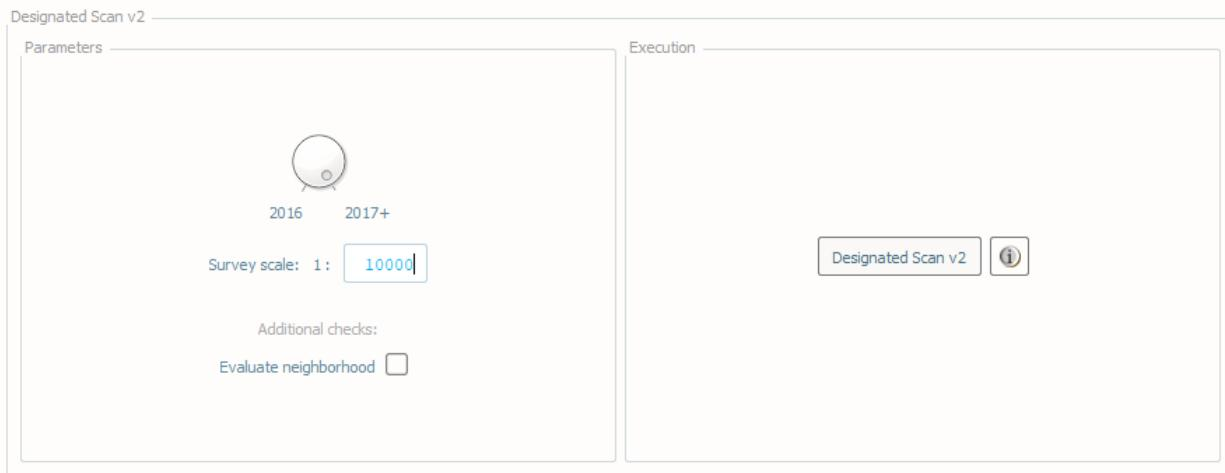

Fig. 2.40: The **Scan Designated** tab.
- Select the **Scan Designated** tab (Fig. 2.40) on the bottom of the QC Tools interface.